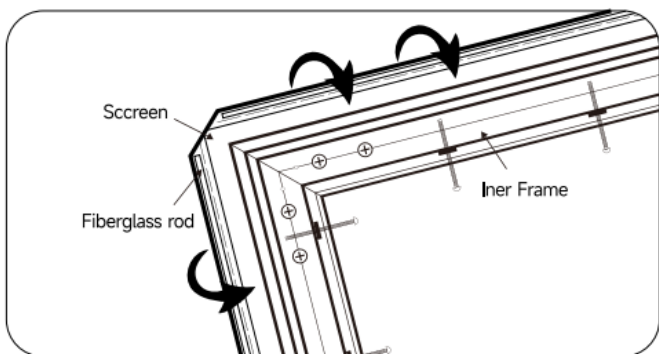

Figure 10
3. Fold the screen with the fiberglass rods threaded in and place it into the groove of the inner frame for fixing the screen. First, insert the short edge of the screen into the groove of the inner frame, and then insert the long edge one by one (see Figure 10).